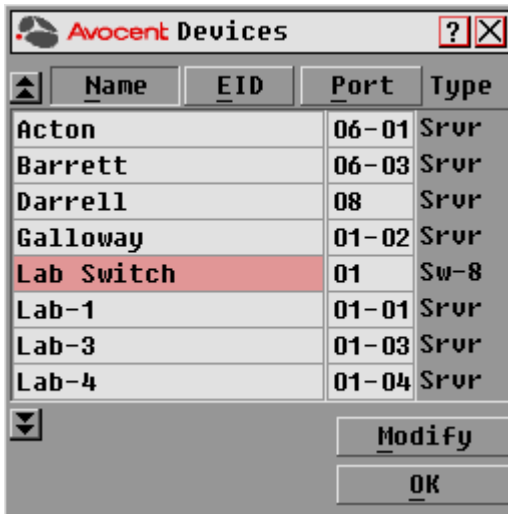

Figure 3.5: OSCAR Interface Devices Dialog Box
2. Click *Setup - Devices* to open the Devices dialog box as shown in Figure 3.5.